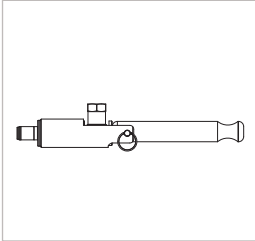

Figure 2
- ▶ Move the clamping lever (Pos. 2) to the straight starting position (*Figure 2*).